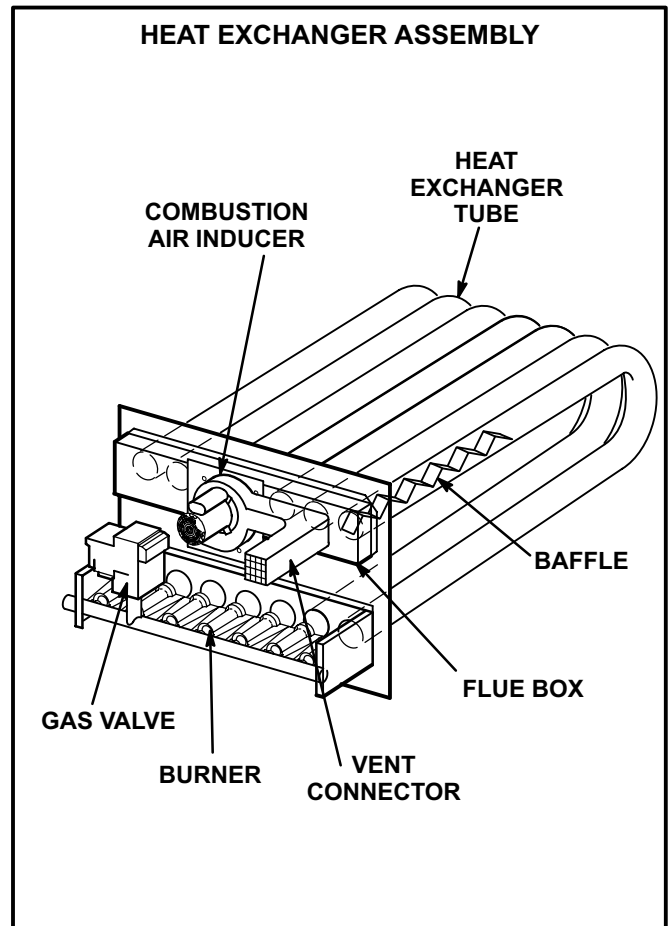

FIGURE 17
- 3- Remove and retain screws securing combustion air inducer to flue box. Remove and retain two screws from bracket supporting vent connector. See figure 17.